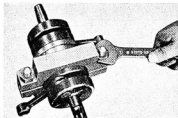

Fig. 4-16-6
- 2) Tighten the pieces of the tool together with bolts, (Fig. 4-16-6)